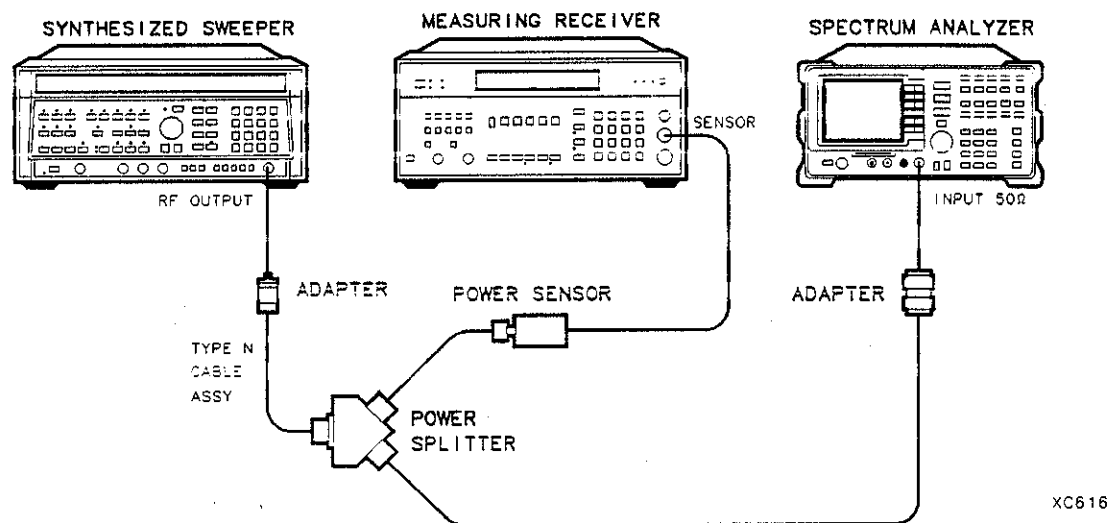

Figure 1-17. Frequency Response Test Setup, ≥ 50 MHz
2. Connect the equipment as shown in Figure 1-17.